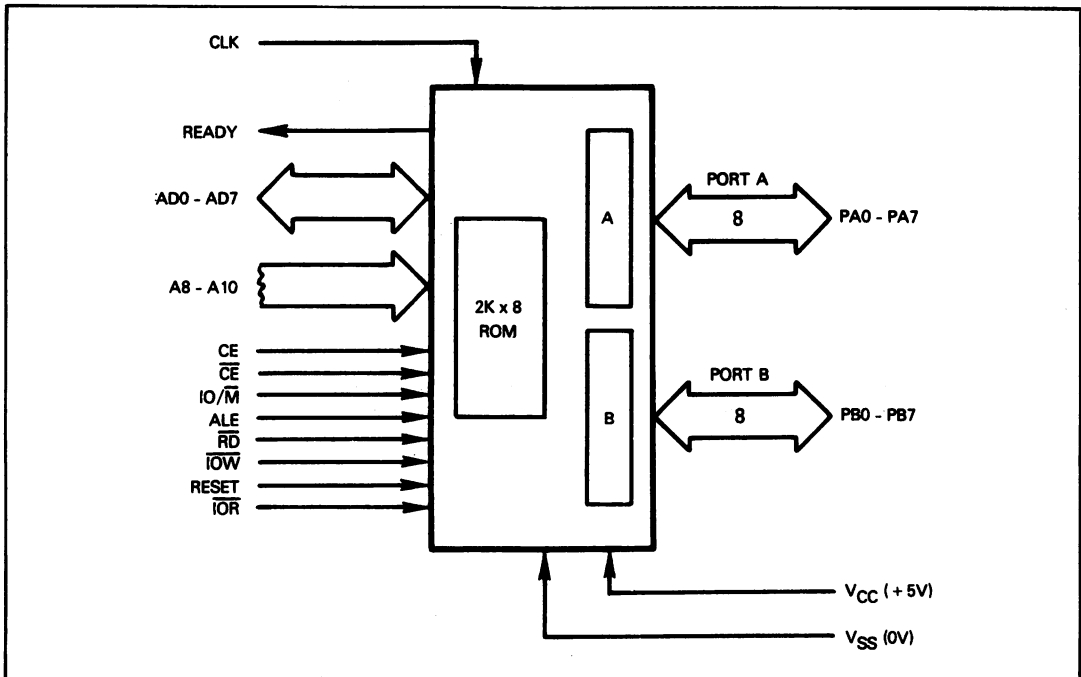

Figure 5-24. Logic Functions of the 8355 Device
**Figure 5-24 functionally illustrates logic of the 8355 device. A simple 8085A-8155/8156-8355 configuration is illustrated in Figure 5-26.**